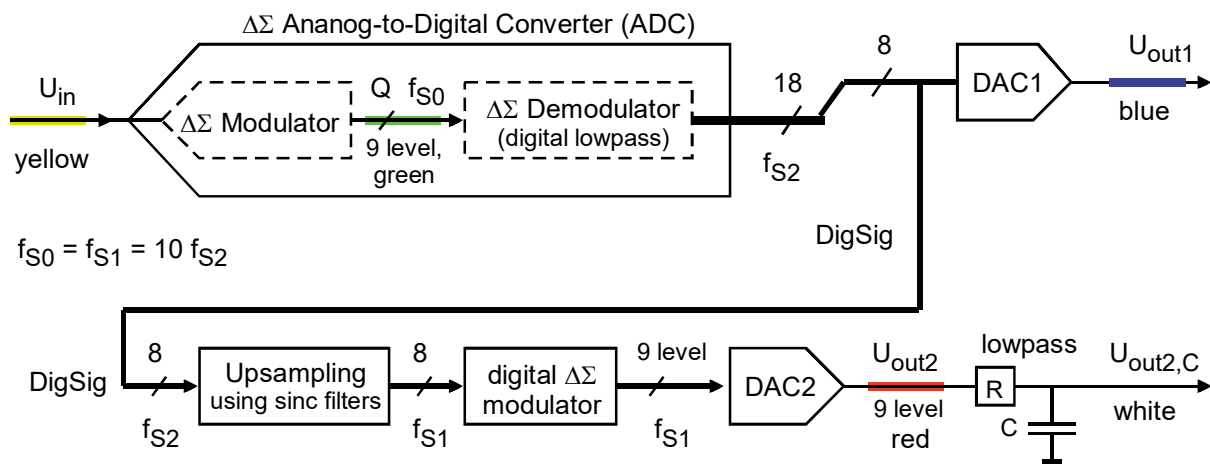
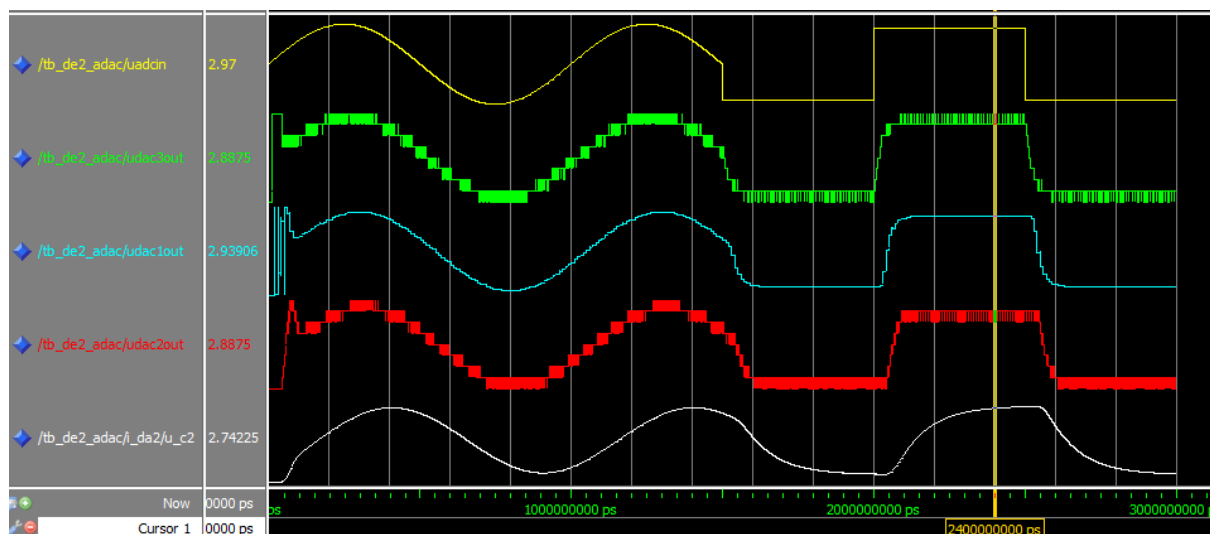
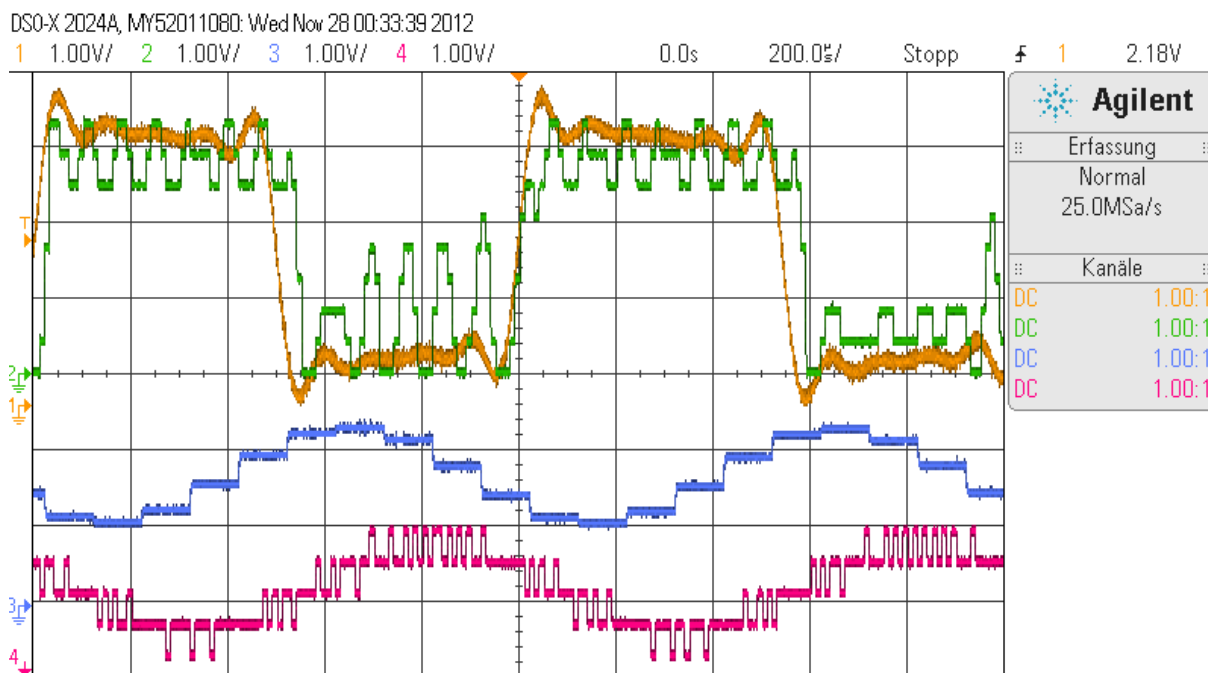

Fig 4.1: A/D – D/A Conversion System overview.
Fig. 4.2: CompleteADA conversion system simulation with *ModelSim*.
Fig 4.5: Oscillogram: U_{in} (yellow) and $Q=U_{fb,in}$ (green) of DSM board, U_{out1} (blue), U_{out2} (red).
The complete system under consideration is illustrated in Fig. 4.1(b) and 4.2. Input U_{in} (yellow) is fed to a $\Delta\Sigma$ ADC consisting of modulator and demodulator connected by quantized signal Q (green). It delivers signal $DigSig$, which is translated directly to U_{out1} (blue) by the 256-level R2R-DAC named $DAC1$, and indirectly to U_{out2} (red) by the 9-level DAC named $DAC2$, and after smoothing to $U_{out2,C}$ (white).
The *do*-command processes commands within file *work.do*, which uses the graphics command file *wave.do*. You should get the result shown in Fig. 4.2.
Questions: $\Delta\Sigma$ converters are said to be accurate but slow, slow because of the big modulator’s delay. This statement is both true and wrong. Argue with Fig. 4.2!
In this lab $DAC2$ of the ADA board is fed with an 8-bit / 9-level thermometric code. Its possible states are "00000000", "00000001", "00000011", "00000111", "00001111", "00011111", "00111111", "01111111", "11111111". The output levels are shown as red curves in Figs. 4.2 and 4.5.
In this lab the Digital-to-digital (D/D) modulator has a 1st order integrator. Consequently, the demodulator would require at least 2nd order lowpass to exploit possible signal-to-noise ratio (SNR). Here we yielded optically acceptable results with a simulated 1st order RC lowpass, shown as white curve in Fig. 4.2.
- Let's now work get the oscillogram shown in Fig. 4.5. The channels were selected to match the colors of the *ModelSim* simulation shown in Fig. 4.2.
The curves seen in the oscillogram in Fig. 4.5 are:
- $sw(9:8) = "11"$: Switches $sw(9:8)$ set the number of levels of the Flash-ADC to $NoL = 2^{sw(17:16)} + 1$. Consequently, $sw(9:8) = "11" \rightarrow NoL = 9$, $"10" \rightarrow NoL = 5$, $"01" \rightarrow NoL = 3$, $"00" \rightarrow NoL = 2$. (While the Flash-ADC always delivers 9 levels, NoL is reduced by logic in the VHDL code. In Figs. 4.2 and 4.5 we used $NoL = 9$ levels.)
- CH1: **top, yellow**: Signal U_{in} of Fig. 4.1: Then switch your input waveform from a sinusoidal to a rectangular, still having 2V_{pp} . Now $V(n5)$ should deliver the yellow curve shown in Fig. 4.5. It must be centered around $V_{CC}/2 = 1.65 \text{V}$, range $0.65 \text{V} - 2.65 \text{V}$. Adjust amplification of factor 10 with poti *R9* if necessary.
- CH2: **top, green**: Quantized signal Q of Fig. 4.1: Connect channel 2 of your oscilloscope to pin **A25** of **ADA**. You should get the top green 9-level curve measured at pin **ADA/**. This is the $\Delta\Sigma$ modulator's output Q fed to **DAC3** delivering $= U_{fb,in}$ of DSM board. Observe impact of switches $sw(17:16)$ on the number of levels of this waveform.
- CH3: **mean, blue**: Signal *DigSig* of Fig. 4.1: Connect channel 3 of your oscilloscope to pin **A1** of **ADA**. This is the output of the R2R-DAC named *DAC1*, featuring 256-levels, which visualizes the $\Delta\Sigma$ -ADC's output *DigSig*. The time delay of 65 cycles of sampling clock f_{s2} is due to the $\Delta\Sigma$ -demodulating low-pass. Note that sampling frequency is $f_{s2} = f_{s0}/10$.
- CH4: **bottom, red**: Signal U_{out2} of Fig. 4.1: Connect channel 4 of your oscilloscope to pin **A17** of **ADA**. This is $U_{DAC2out}$, the output of *DAC2*. The input signal of *DAC2* was obtained from the blue signal *DigSig* by speeding its sampling rate up by a factor 10 to obtain $f_{s1} = 10 \cdot f_{s2}$. With this higher sampling rate it was $\Delta\Sigma$ modulated and fed to *DAC2*. The time delay compared to CH3 is due to the interpolating sinc^4 filter, necessary after up-sampling.
Observe Fig. 4.5. Is the $\Delta\Sigma$ modulator fast (green following yellow curve)? . . . **yes**
Observe from Fig. 4.5 if the modulator is operated at 1st or 2nd order. To do so keep in mind, that a 1st order modulator will never do jumps over 2 Δ 's without significant jumps of the input signal.